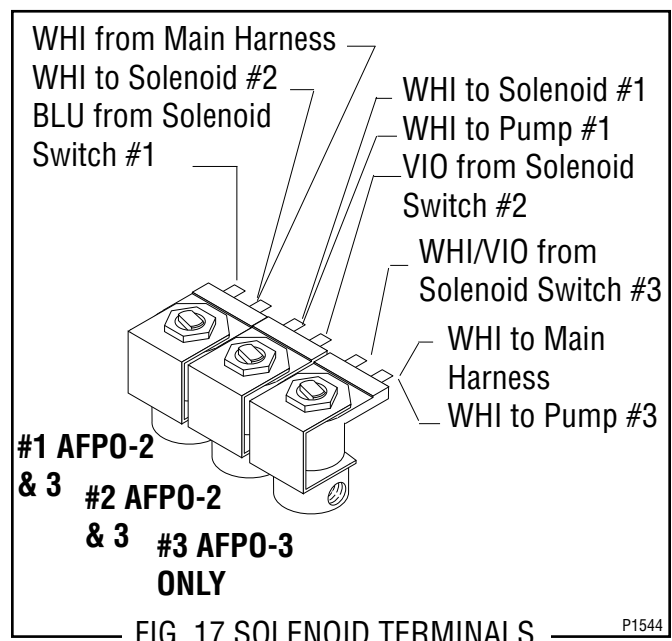

FIG. 17 SOLENOID TERMINALS
If continuity is present as described, refer to Fig. 17 and reconnect the wires to the solenoid.
10. Refer to Fig. 17 and reconnect the wires.